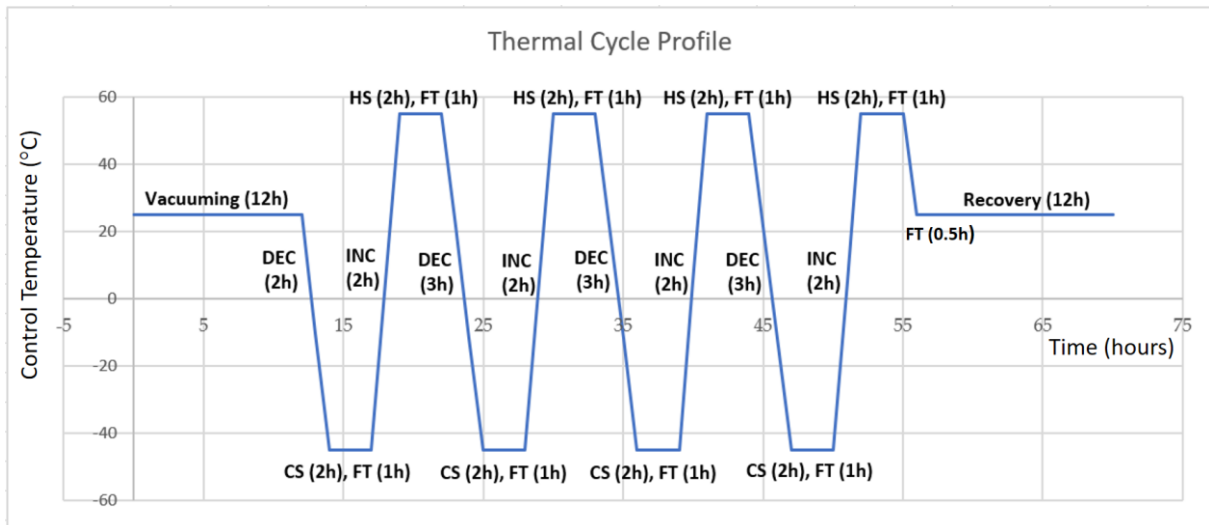

Figure 6. Test Cycle Profile
- The test will be conducted with 4 cycles (4 cold and 4 hot) as shown in Figure 6. At the extreme cold temperature and at the extreme hot temperature of each cycle, soaking time is 2 hours then followed by functionality tests of subsystems and missions within the next 1 hour.